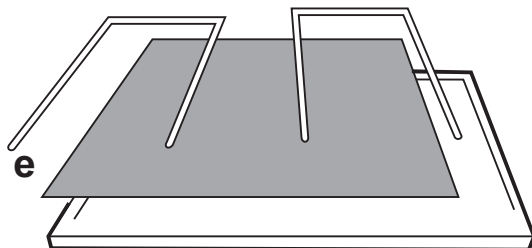

Fig. 3
3. Remove the device securing the grease filter. **Fig. 3 (e).**